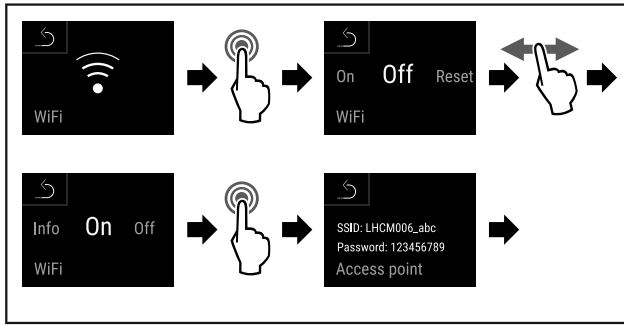

Fig. 117
- ▶ Complete the steps (see Fig. 117) .